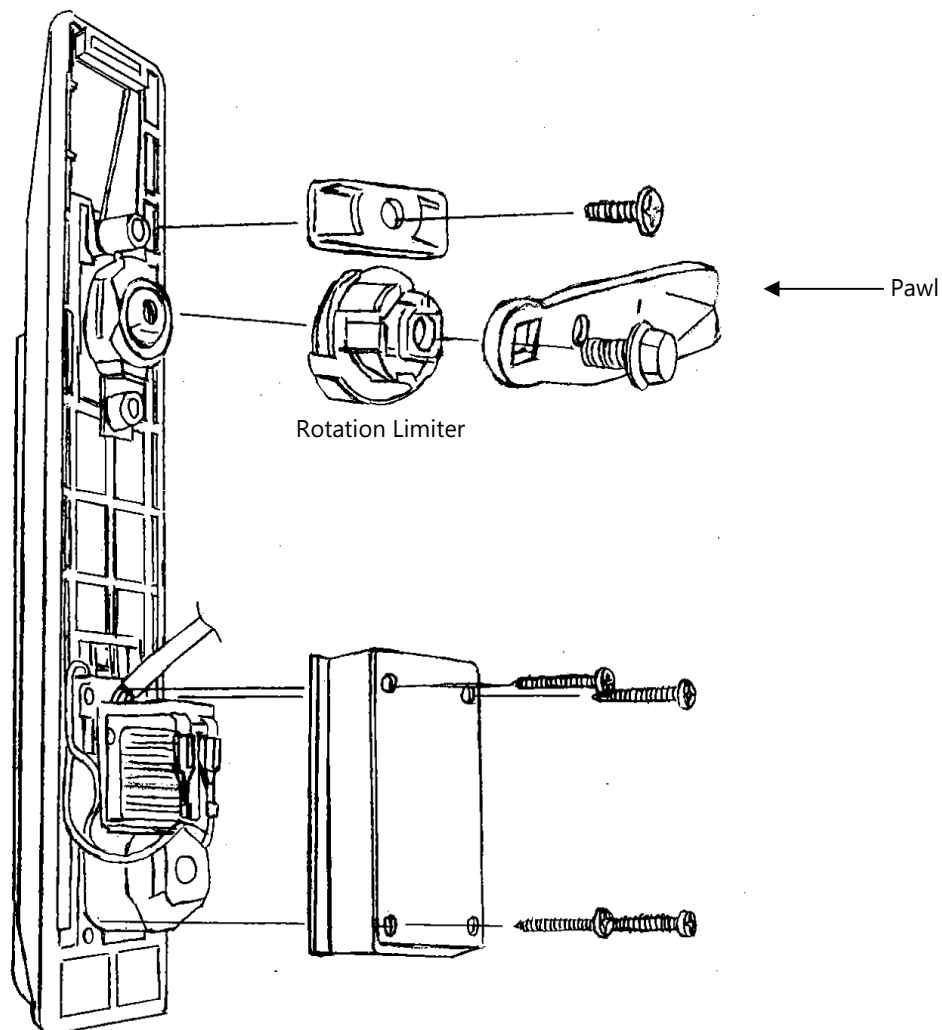

Figure 1
- Secure the lock to the door using the top mounting bracket and bottom mounting bracket as show in Figure 1. Do not over-tighten the screws in the bottom mounting bracket as this may jam the lock mechanism.